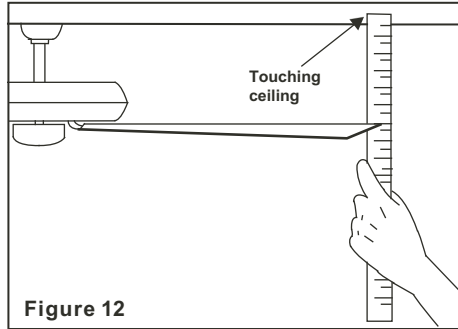

Figure 12
2. Most fan wobbling problems are caused when blade levels are unequal. Check this level by selecting a point on the ceiling above the tip of one of the blades. Measure this distance as shown in Figure 12. Rotate the fan until the next blade is positioned for measurement. Repeat for each blade. The distance deviation should be equal within  $1/8$ ".